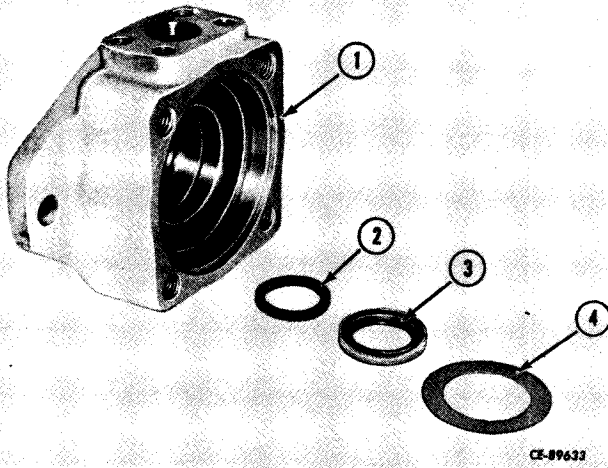

Figure 11-29
Remove the washer (4, Fig. 11-29), seal (3) and wiper (2) from the body (1).
Install washer in the body (4, Fig. 11-29).